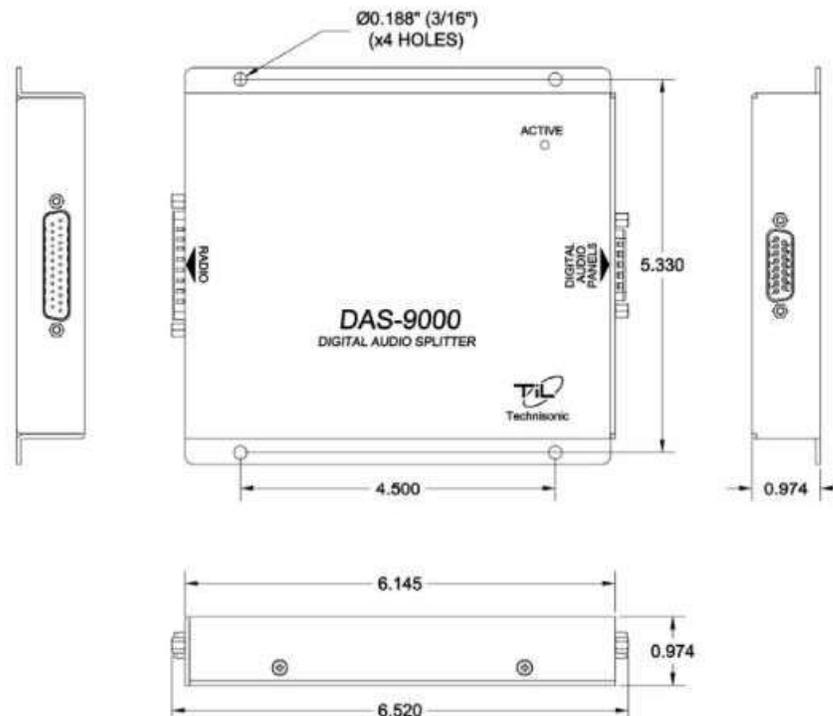

Figure 1 - DAS-9000 Installation Footprint
1. The DAS-9000 Digital Audio Splitter (P/N: 241309-1) must be installed on either the rotorcraft's secondary or tertiary structure, in a location close to its applicable TDFM-9000 series transceiver. The footprint of the DAS-9000 is provided below in Figure 1 for reference.